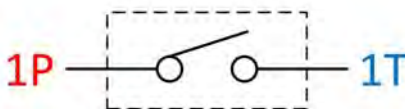

Figure 1. An SPST switch is ideal for applications that require only an on or off state, such as a momentary switch.
If you take a look back at Figure 1 of the SPST switch, you can see that the image is of the switch open. This switch is said to be normally open (NO). When you actuate an NO switch, you close the circuit. An SPST NO switch is referred to as form A. Contacts can be referred to as NO when in the open position.